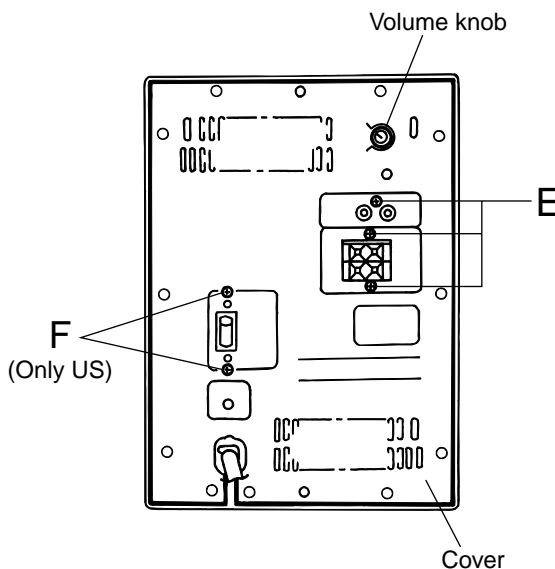

Fig.5
■ Removing the cover (See Fig.5)